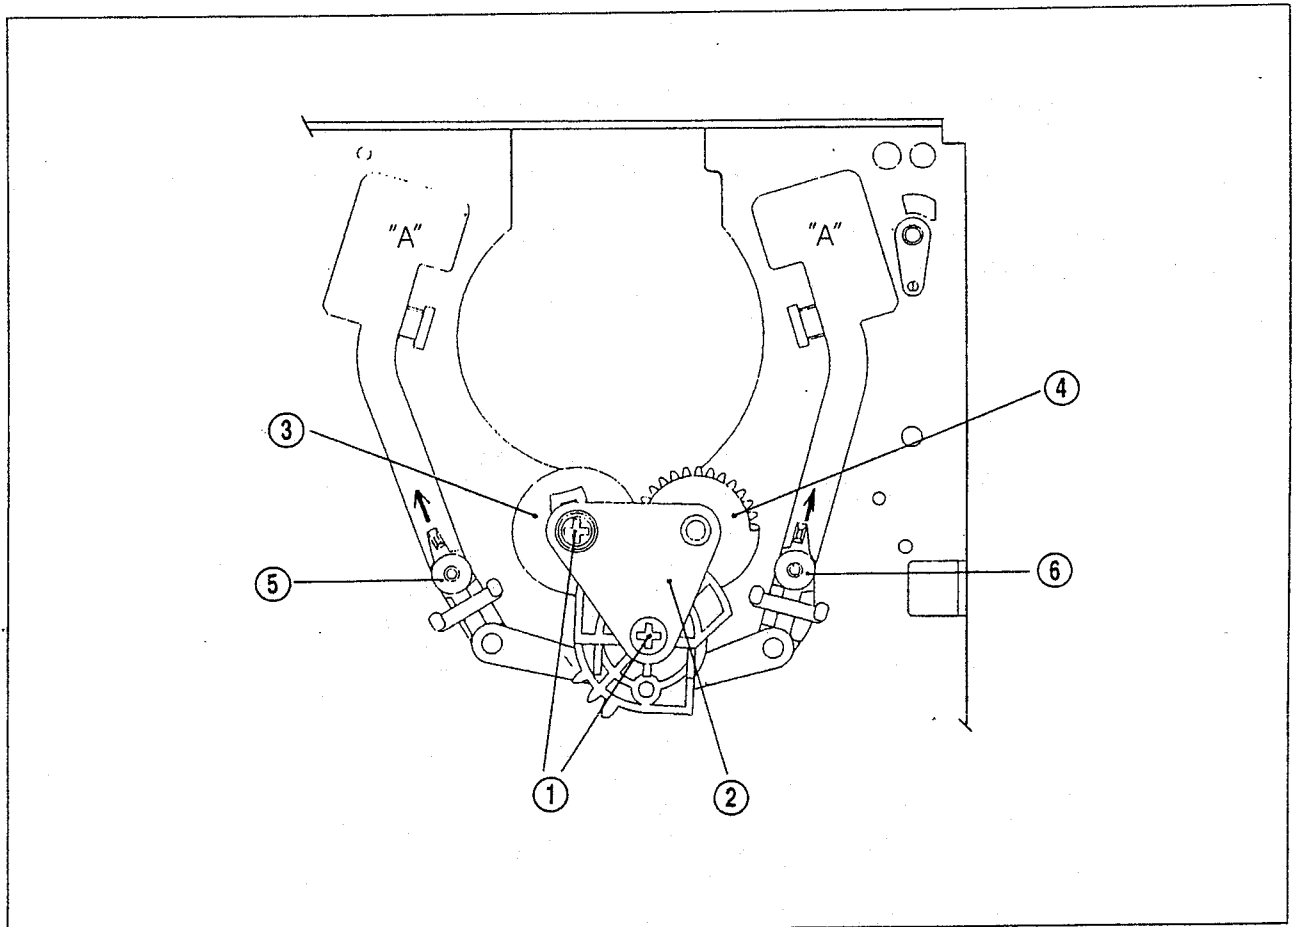

Fig. 3-3
3. REPLACEMENT OF THE S, T SLANT POLE ASS'Y (See Fig. 3-3)